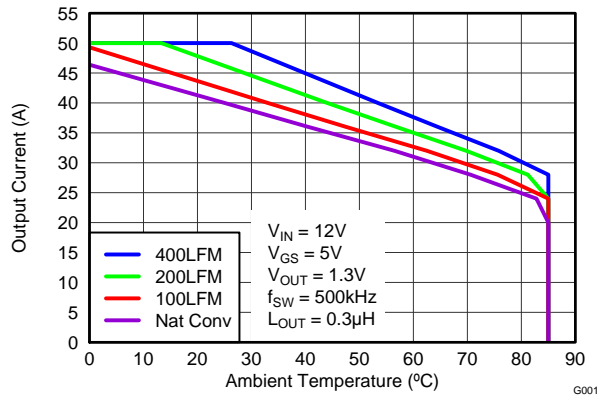
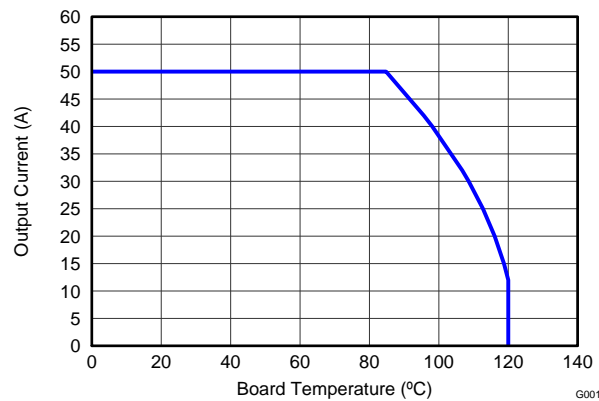

Figure 3. Safe Operating Area – PCB Vertical Mount ⁽¹⁾
Figure 5. Typical Safe Operating Area⁽¹⁾
The SOA curves in the CSD86360Q5D data sheet provides guidance on the temperature boundaries within an operating system by incorporating the thermal resistance and system power loss. Figure 3 to Figure 5 outline the temperature and airflow conditions required for a given load current. The area under the curve dictates the safe operating area. All the curves are based on measurements made on a PCB design with dimensions of 4" (W) x 3.5" (L) x 0.062" (T) and 6 copper layers of 1 oz. copper thickness.